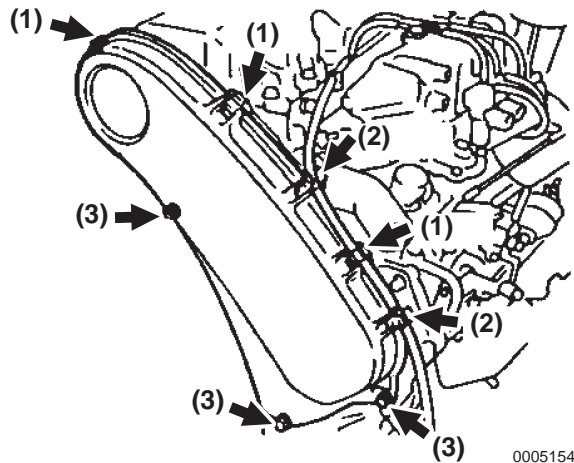

Figure 5-157
1. Remove the 3 timing belt cover clips (**Figure 5-157, (1)**) and 2 clamps (**Figure 5-157, (2)**).
2. Remove the 3 bolts (**Figure 5-157, (3)**), 3 seal washers, timing belt cover, gasket and insulator.